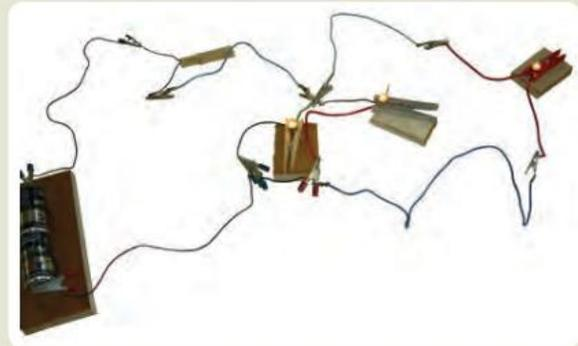

Figure 8.34 A switch, three bulbs and two cells connected in parallel
- 5 Connect a third bulb (Bulb 3) into the circuit as shown in Figure 8.34.